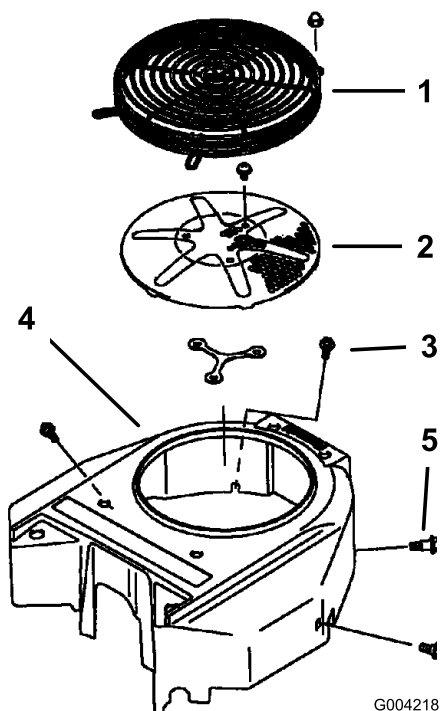

Figure 69
Before each use remove any build-up of grass, dirt or other debris from the engine screen. This will help insure adequate cooling and correct engine speed and will reduce the possibility of overheating and mechanical damage to the engine (Figure 69).
3. Remove the air intake screen, recoil starter and fan housing (Figure 69).
5. Install air intake screen, recoil starter and fan housing (Figure 69).